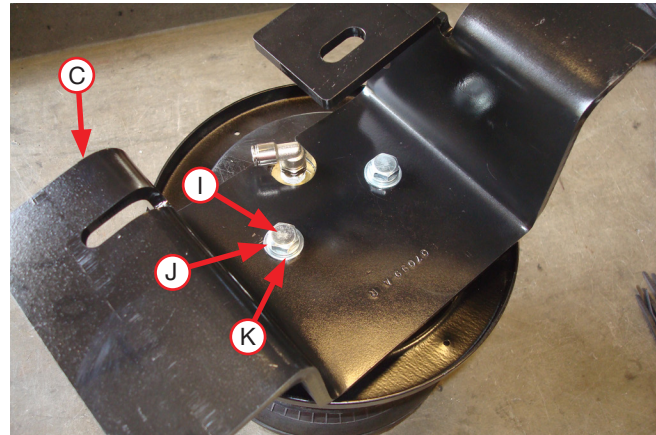

Fig. 6
2. Set the upper left- (D) and right-hand (C, pictured) air spring brackets onto the air spring assemblies and attach with 3/8" hex-head cap screws (I), lock washers (J) and flat washers (K) (Fig. 6). Torque to no more than 20 lb.-ft. (27Nm).